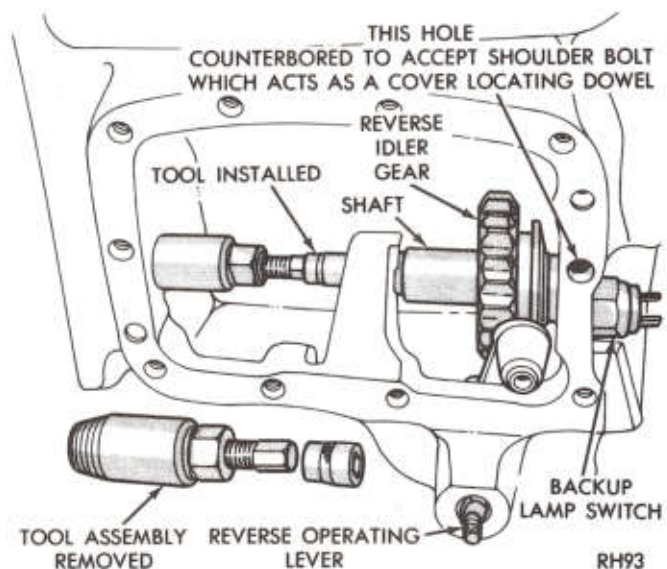

Fig. 24—Remove Reverse Idler Shaft
the case. To remove, place a 7/16 inch socket (1/4 or 3/8 inch drive) on end of Tool C-3638 Power Steering Wormshaft Seal Remover (Fig. 24).
(9) Install housing retaining bolts finger tight and shift through all gears to insure proper operation.
(10) Eight of the shift housing retaining bolts are shoulder bolts for accurately locating the mechanism on the transmission. One bolt shoulder is longer and acts as a dowel, passing through the cover and into the transmission case at center of rear flange (Fig. 24). Two bolts are standard, located at lower rear of cover. Tighten all bolts evenly to 15 ft. lbs. (20 N·m).
(11) The reverse shift lever and 1-2 shift lever have cam surfaces which mate in reverse position to lock the 1-2 lever, fork, and synchronizer in neutral position. Slight motion of the 1-2 operating lever toward